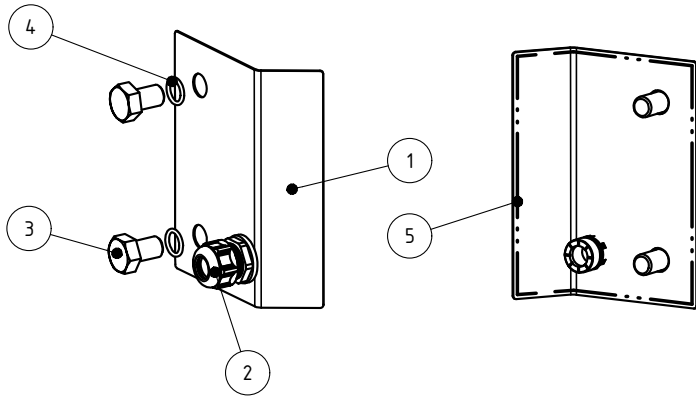

Figure 2.1 - Overview
Make sure to place the two supplied O-rings (item 4 in Figure 2.1) between the screw heads and the cover plate.